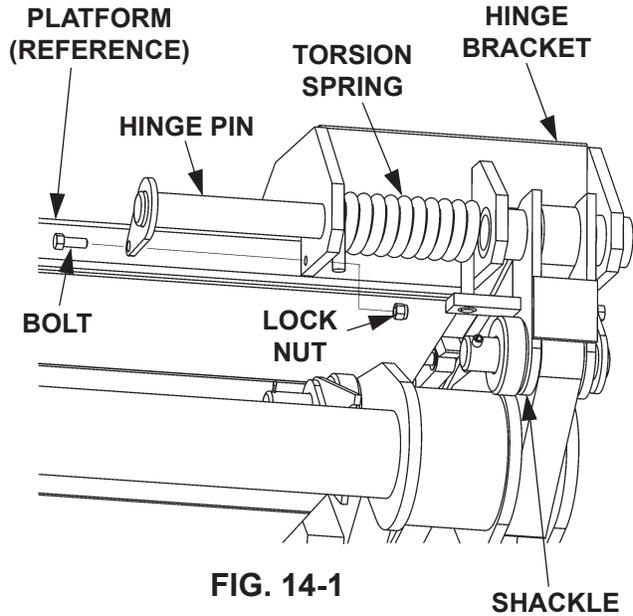

FIG. 14-1
3. Unbolt hinge pin from hinge bracket (**FIG. 14-1**). Remove bolt and lock nut. Drive the hinge pin inboard toward the shackle with a hammer and pin punch, just enough to free the torsion spring (**FIG. 14-1**). Remove spring from shackle.